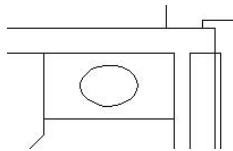

FIGURE 5.28: The completed sink fixture
5. Hold the crosshair cursor directly to the right of the center point. Type `7↵`. Hold the crosshair cursor directly above the center and type `5↵`. The ellipse is constructed, and the sink fixture is complete (see Figure 5.28). Leave the view on your screen as it is for a moment.